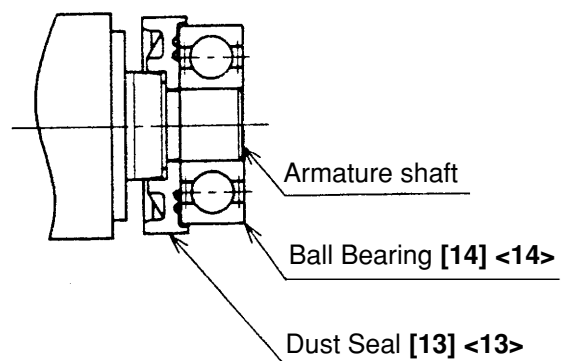

Fig. 6
- (1) Generously lubricate the teeth of Gear [17] <17> and Pinion [6] <6> with grease. Rub grease onto the teeth with your fingers so that the grease reaches each tooth bottom. Note that the Gear [17] <17> and Pinion [6] <6> if under-lubricated may wear at an faster rate.
- (2) Be sure to soak the inner diameter of the Felt Packing [21] <21> with machine oil. Otherwise, its dust-sealing function will fail to work properly, resulting in an earlier damage of the Ball Bearing [20] <20>.
- (3) When replacing the Armature [9] <9> and the Ball Bearing [14] <14> on the commutator side, press inward on the Dust Seal [13] <13> while taking care of its direction until the end face of the Dust Seal [13] <13> hits against the butting surface of the Armature [9] <9> and make sure that Dust Seal [13] <13> cannot turn freely. (See Fig. 6)